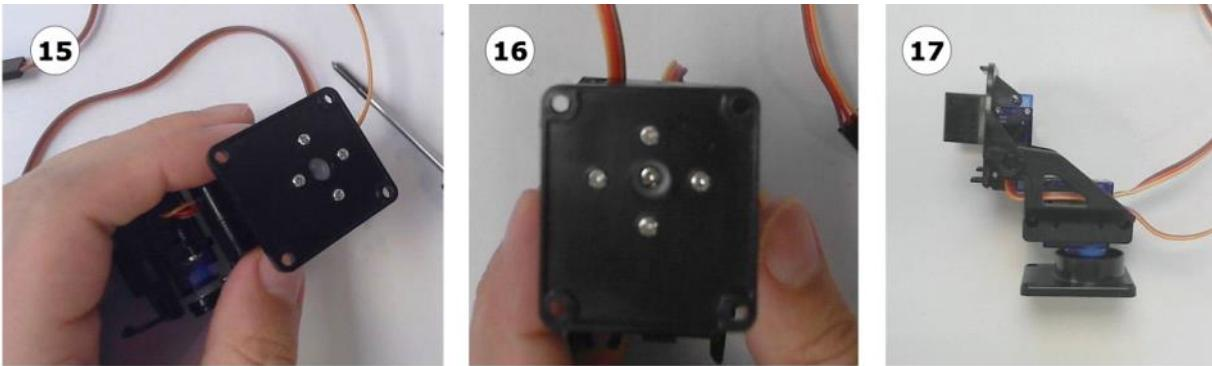

Figure 10.15 – Combining the base with the mechanism
- Figure 10.15 shows how to attach the mechanism to its base. Push the collar from the servo horn screwed into the base onto the pan servo spindle. Line it up so that the long axis of the base is in line with the bottom of the mechanism.